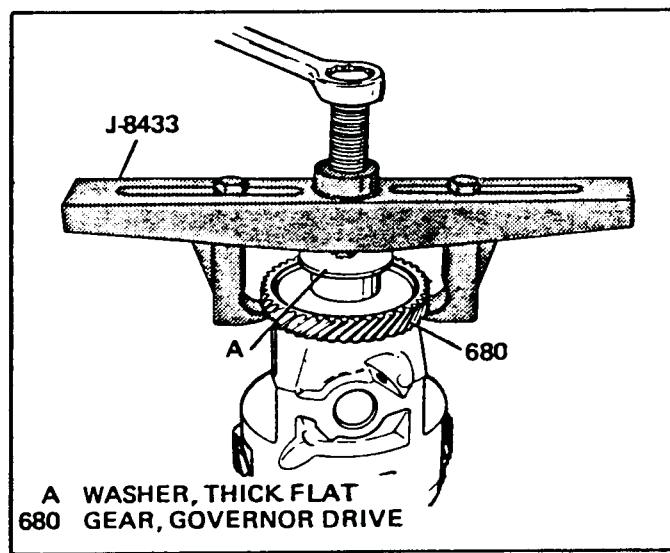

Figure 66
1. Remove the governor drive gear with the J-8433 puller as shown in Figure 66. Place a thick flat washer on the hub to prevent damage to the final drive. See Figure 66.